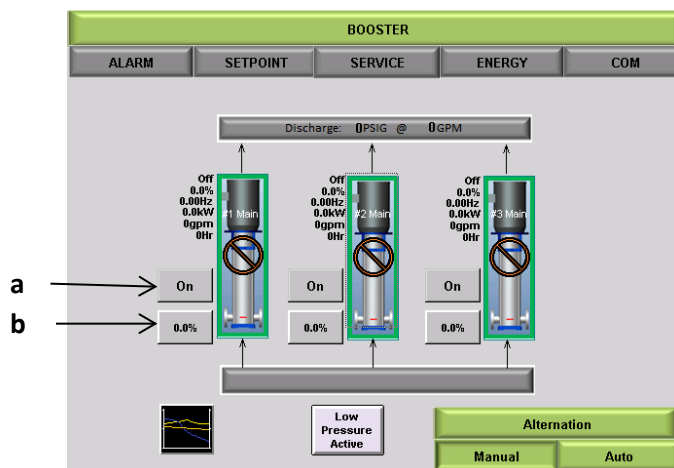

Figure 15: Basic Booster Manual Screen
3. **Manual Mode** is activated/deactivated by tapping [MANUAL] from the home screen. When activated, a dedicated screen will appear as shown in **Figure 15** to allow manual operation of individual pumps.